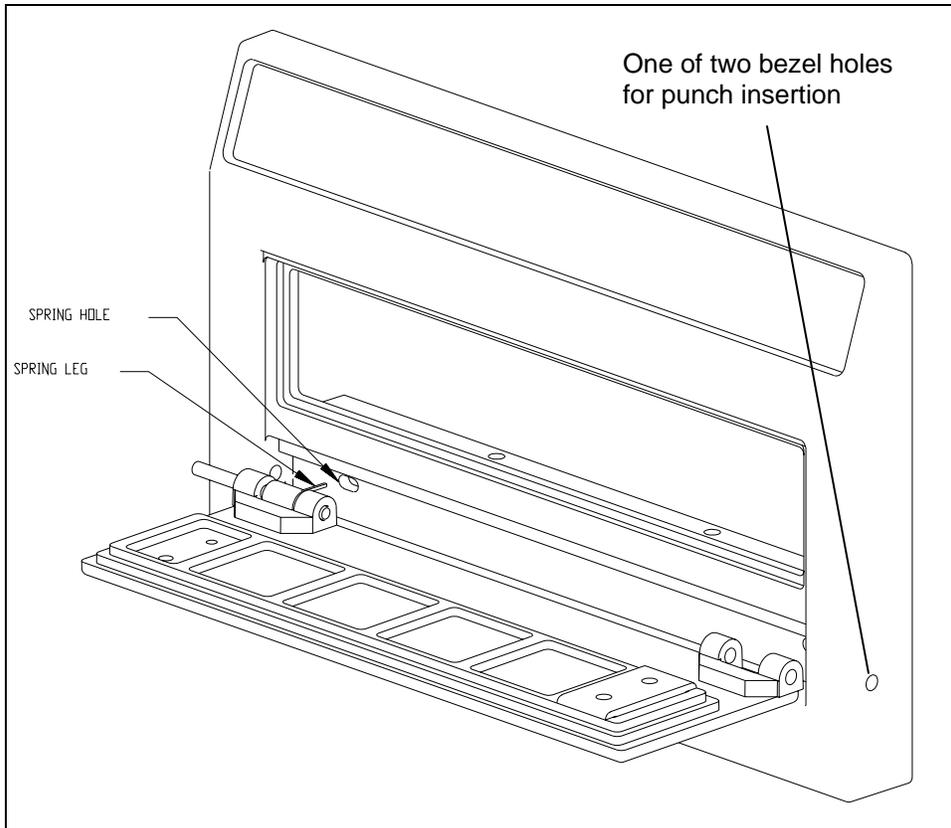

Figure 11-6 Positioning the Punch Removing the Pins for the Door Hinge
- 1 Using a long punch, insert it through the side of the bezel and push the pin through the door hinge (Figure 11-6).